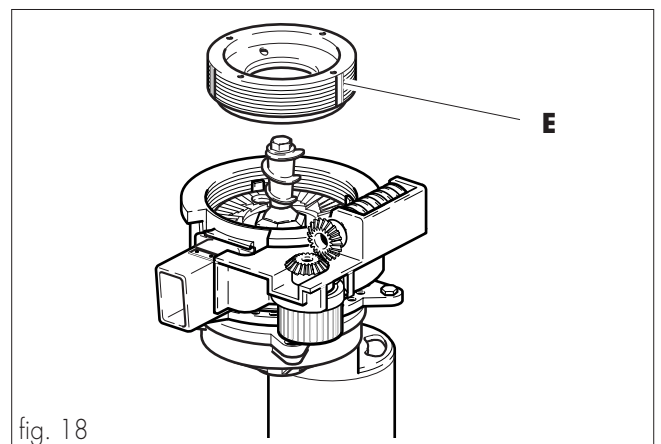

fig. 18
- Completely unscrew the adjustment ring nut (ref. E, fig. 18) and clean both the grinders using a vacuum cleaner and a brush.